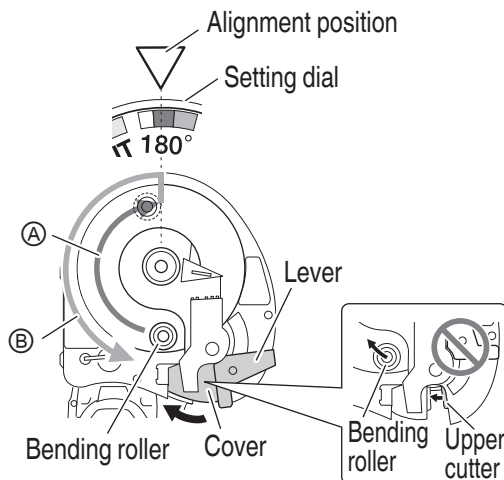

Fig. 15
Releasing the switch within area (A) will apply a brake that will stop operation. (Fig. 15)
Releasing the switch within area (B) will automatically return the upper cutter and bending roller to their original positions. (Fig. 15)
The cutter also simultaneously activates, so please close the cover. (Fig. 15)